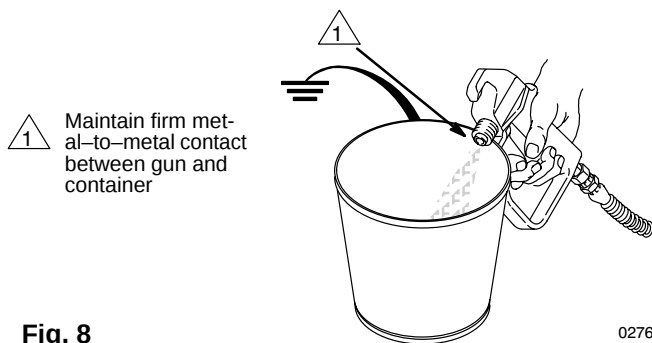

Fig. 8
3. Check to be sure the trigger safety lever is locked. Remove the spray tip from the gun. Unlock the safety lever. Hold a metal part of the gun firmly to the side of a grounded metal pail. Close the bypass valve (66). Trigger the gun into the pail. Turn on the sprayer. Watch the side of the pail for solvent to appear. Then release the gun trigger. Turn off the sprayer.
4. With the bypass valve (66) closed, turn on the sprayer, trigger the gun into the flushing pail and allow the solvent to circulate through the hose and gun for two to three minutes, using the lowest possible pressure. See Fig. 8. Release the gun trigger and lock the safety lever. Turn off the sprayer.